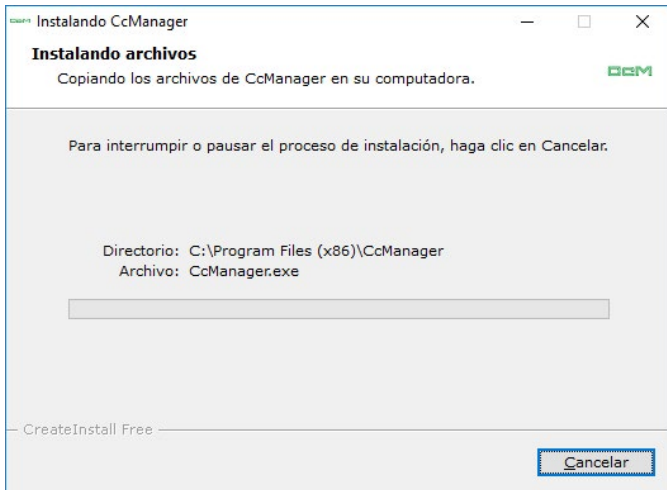

Figure 3. Windows – Installation process 3 of 4
- The files which are necessary to run the programme, will start copying in your system (you will see that on the progress bar as shown in Figure 3).